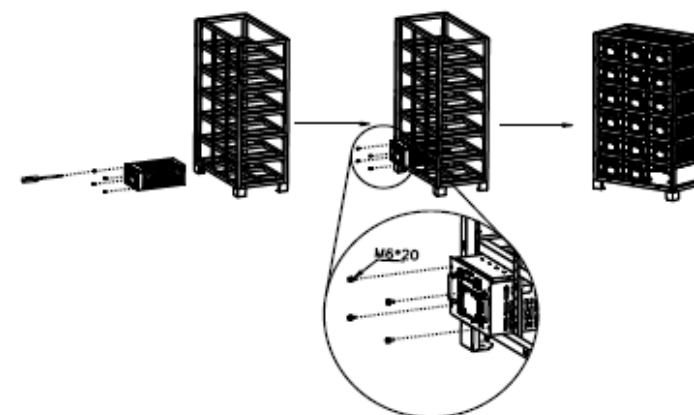

Figure 6-2 Installation diagram of the battery module (picture is for reference only)
- 3) Place the battery case in the corresponding position of the battery holder according to Figure 6-2, and fix the battery case to the battery holder with the matching M6 screw.